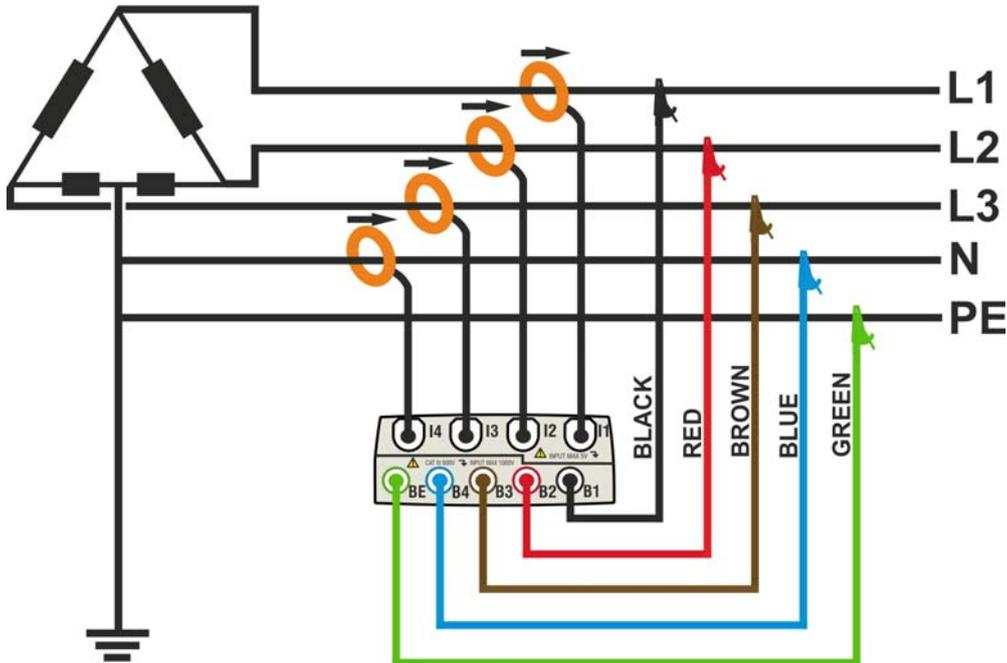

Fig. 122: Meter connection in a three phase 4-wire 3P HL system – ENG type
2. Connect voltage test leads on Phases L1, L2, L3, N and PE cables considering the colours as shown in Fig. 122. **Verify the result “123” at display relative to a correct phase sequence indication** (see § 5.2.1) and perform the corrections if necessary.
3. Connect the transducer current clamps on Phase L1, L2, L3 and N cables as shown in Fig. 122 respecting the clamp’s arrow direction indicating the current standard sequence from generator to load. **On Real Time Values’ section screens (selecting a 3 wire system preliminarily) always verify the positive value of Active Power and the power factor relative to load which should be normally inductive** before starting a recording. Reverse the clamp by 180 degrees on cables in case of negative readings.